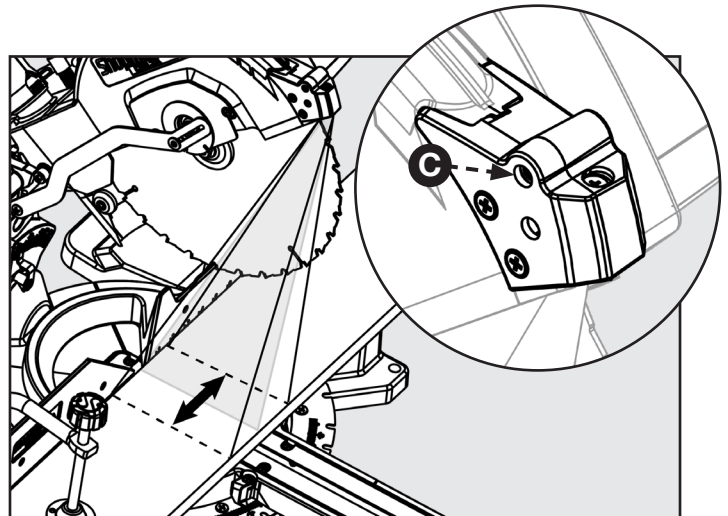

FIGURE 29
If you notice the laser line is offset from the actual cut line refer to Figure 29 and follow these instructions: using a Phillips head screwdriver turn the screw (C) to adjust the offset.